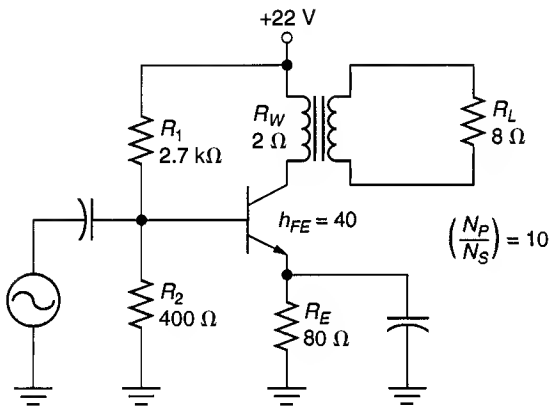

FIGURE 11.52
17. Derive the ac load line for the circuit shown in Figure 11.52.
19. Determine the maximum load power for the circuit in Figure 11.52.
21. Calculate the maximum efficiency of the amplifier in Figure 11.52.
41. Calculate the value of P_D for the transistor in Figure 11.52.